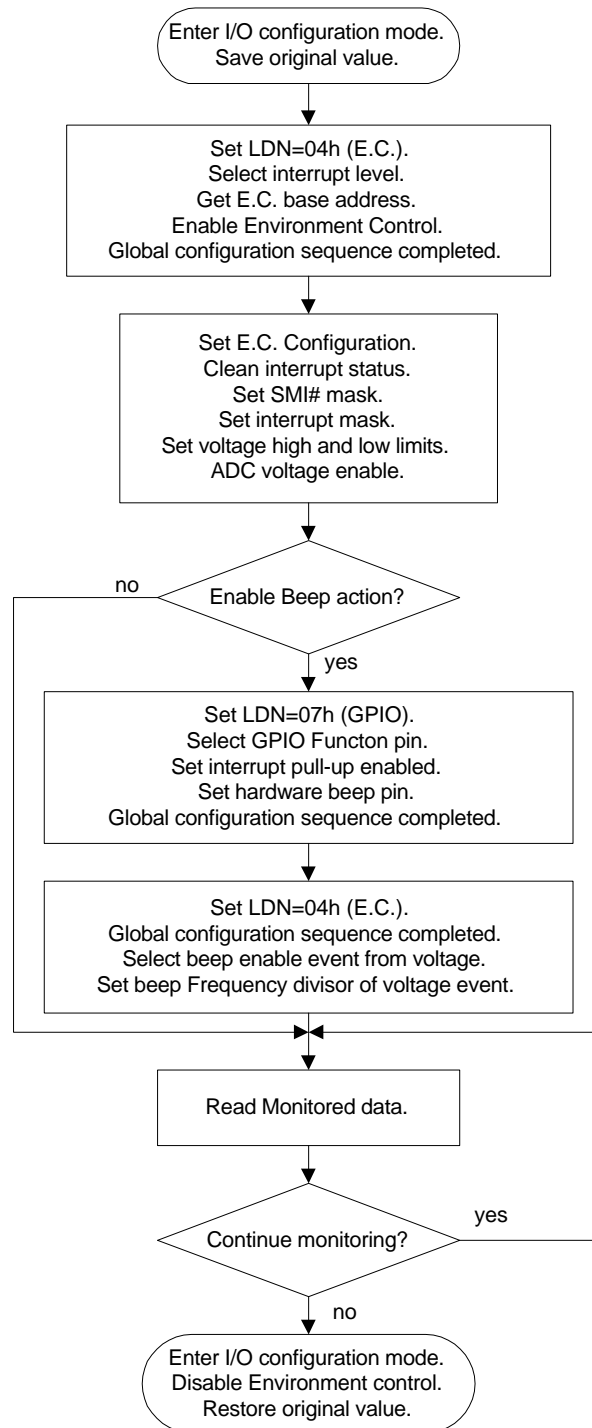
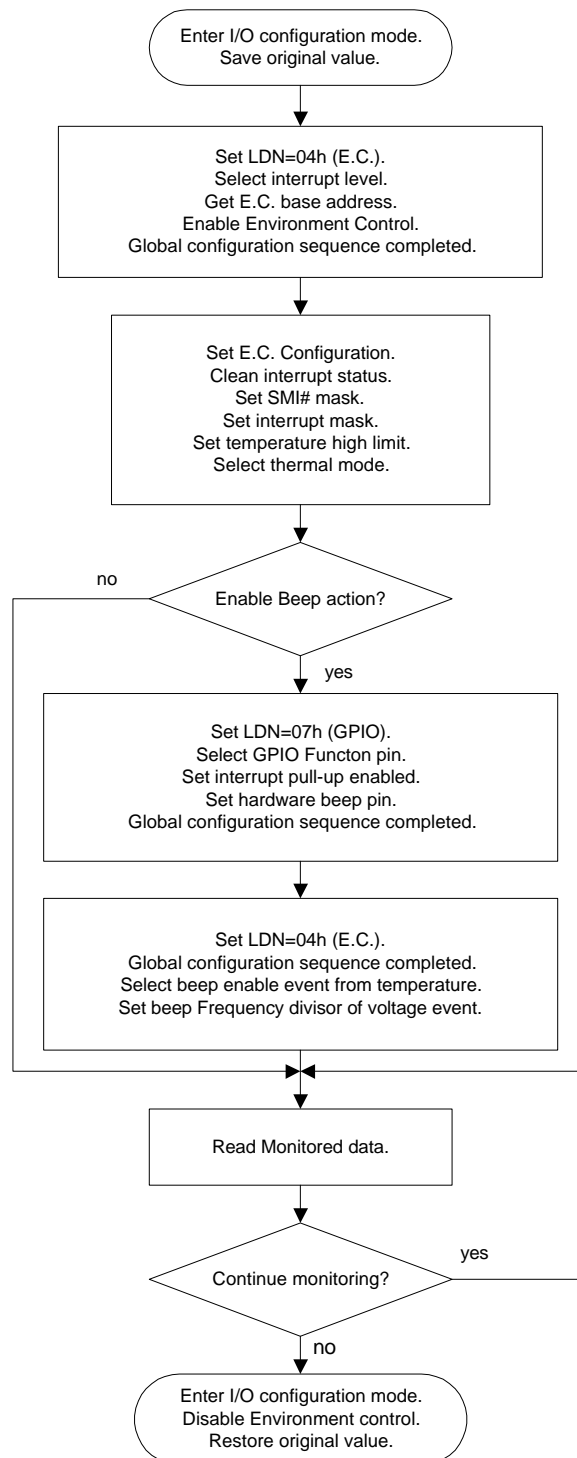
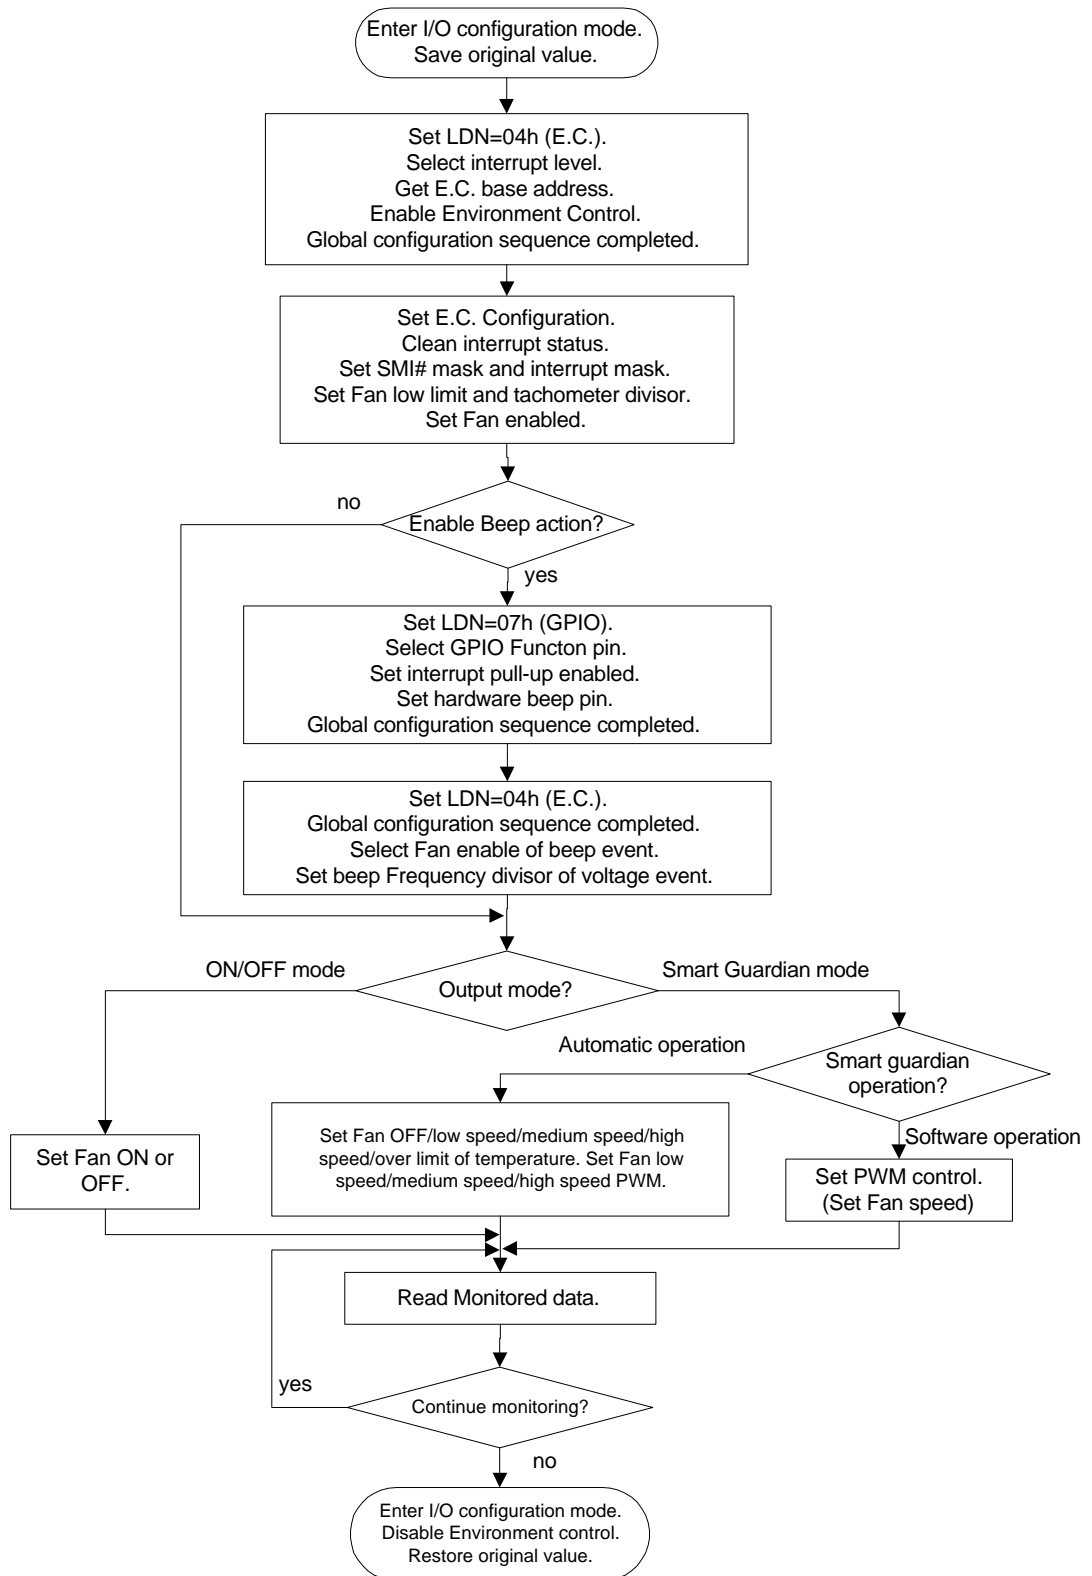

Figure 2-1. Voltage Monitor Control Flow Chart
Figure 2-2. Temperature Monitor Control Flow Chart
Figure 2-3. Fan Monitor Control Flow Chart
The coding flow chart of the voltage monitor of the EC is illustrated in Figure 2-1. The coding flow chart of the Temperature monitor of the EC flow charts is illustrated in Figure 2-2. The flow chart of the Fan monitor and control of the EC is illustrated in Figure 2-3.
- Note 1.** Please refer to Figure 2-1 (Voltage monitor control flow chart) to set the Voltage monitor of the hardware monitor controller.
- Note 2.** Please refer to Figure 2-2 (Temperature monitor control flow chart) to set the Temperature Controller/Monitor of the hardware monitor controller.
- Note 3.** Please refer to Figure 2-3 (Fan monitor control flow chart) to set the Fan Controller/Monitor of the hardware monitor controller.